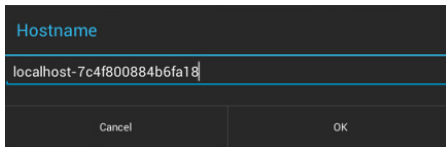

FIG. 56 Hostname window
1. From the *Ethernet* page (IPv4 tab), select Hostname to open the Hostname window (FIG. 56).